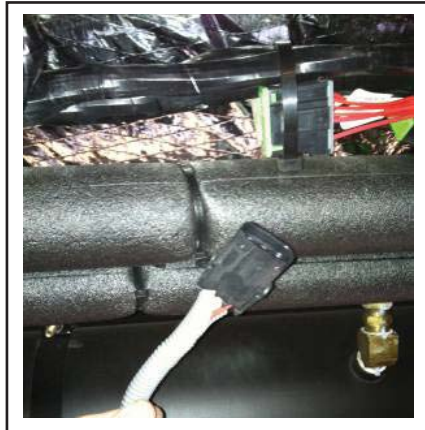

Figure 4 - Baselight Electrical Harness
- 2.1. Disconnect the baselight electrical harness. See Figure 4.